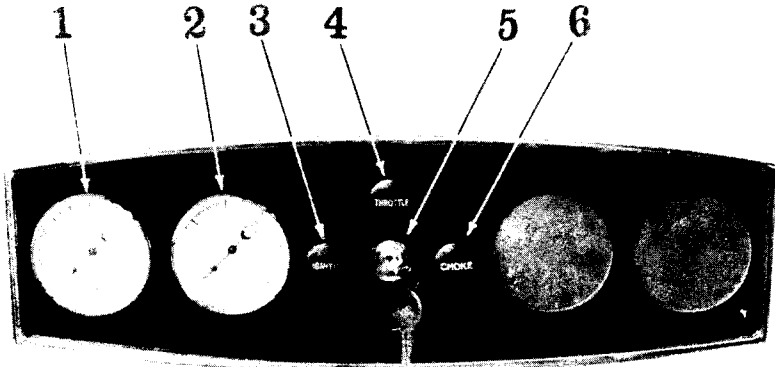

Fig. 2--Instrument Panel
7. INSTRUMENT PANEL - See Figure 2.
## INSTRUMENT PANEL - (Fig. 2)